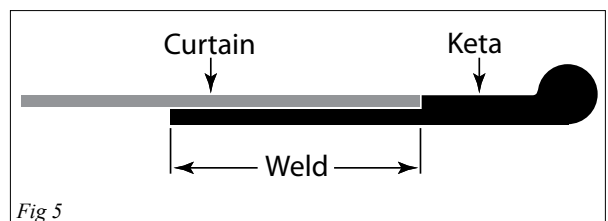

Fig 5
- 14) Cut curtain to size, 117mm less than outside overall measurement. Weld Keta strip to each side of curtain (*fig. 5*).